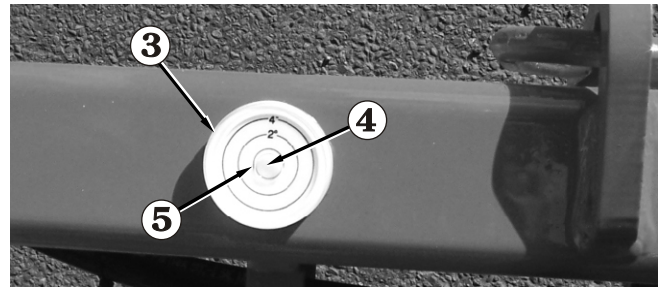
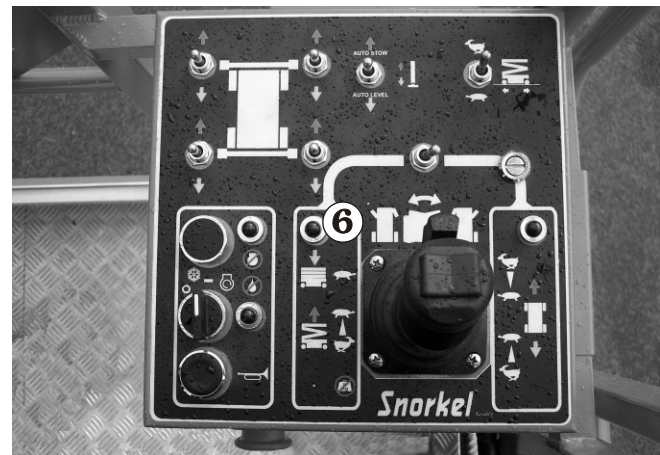

Figure 8.22
Figure 8.23
3. Visually check the bubble level **3** to determine which stabilisers must be further extended to level the platform (see Figure 8.22).
4. Lower the appropriate stabilisers just enough to center the bubble **4** (see Figure 8.22). When the **Lift Indicator Light 6** (see Figure 8.23) comes on, the platform can be safely raised.